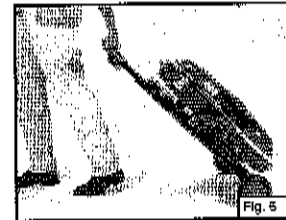

Fig. 6
- Once handle is locked in position, the stove can easily be moved to any location in your campsite or backyard. (Fig. 6)